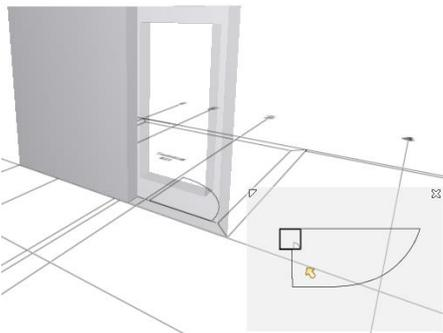

Figure 67 A wall inside another wall
- 5) Double-click the issue and you will be zoomed close to the walls causing the problem. If you feel that you are too close, click the **Zoom Out** button from the **3D View Toolbar** (see Figure 67).